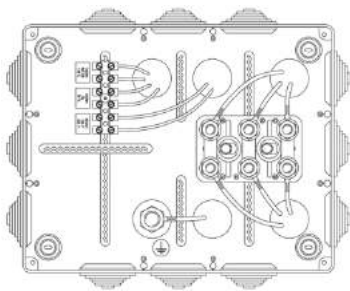

Figure 14 – Connection box for standard pump unit
- The box of the standard pump unit includes (see Figure 14):